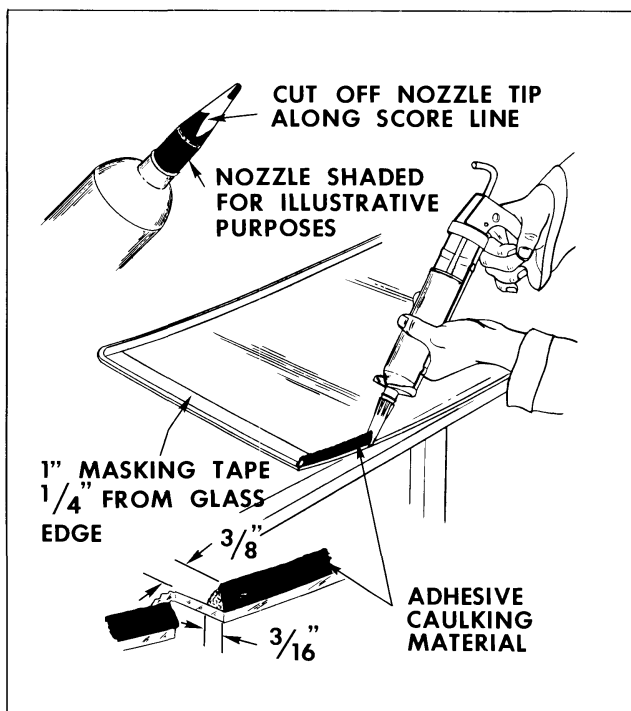

Fig. 14-7 Applying Adhesive Caulking Material
10. Beginning at a lower corner of glass, apply 1" masking tape to inside surface of glass 1/4" in-board from outer edge up both sides and across top (Fig. 14-7). Do not apply tape to bottom edge of glass.
13. Cut tip off of one nozzle along score line (Fig. 14-7), this nozzle to be used to apply bead of adhesive caulking material to glass. Cut tip off other nozzle at 45° angle 1" below end of nozzle, this nozzle to be used to apply "smear bead" of adhesive caulking material to pinchweld flange.
17. Positioning gun and nozzle as shown in Fig. 14-7, carefully apply a smooth continuous bead of caulking material 3/8" high by 3/16" wide at base completely around inside edge of glass. When material in first tube is dispensed, quickly insert second tube and continue application of bead. After application, check bead and fill all voids and air bubbles.